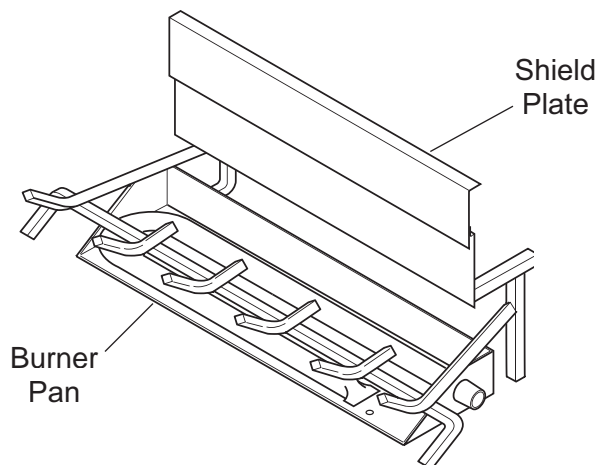

Figure 112 - Sliding Shield Plate Down Back of Burner Pan
1. Slide shield plate down back of burner pan. *See Figure 112.*